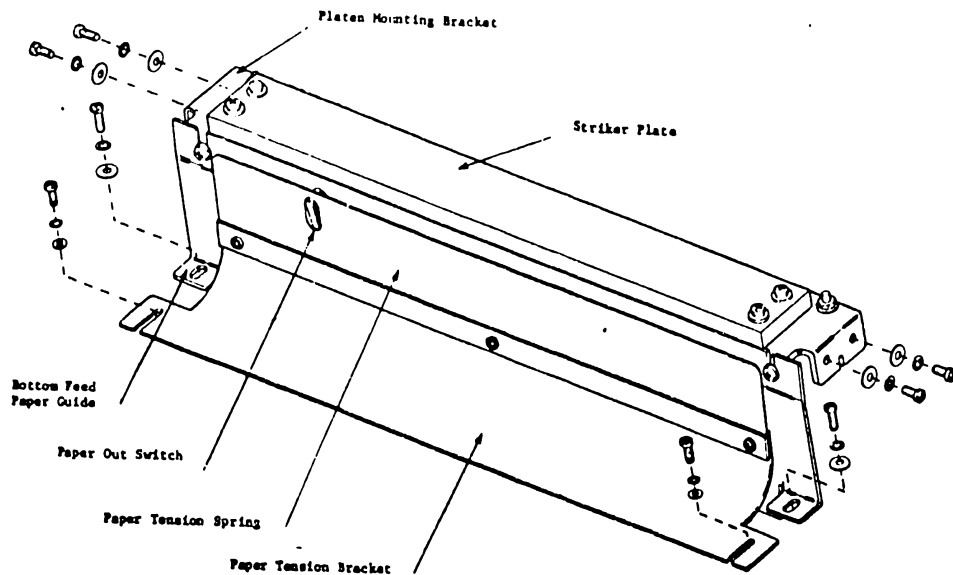

FIGURE 5-3 PAPER GUIDE ASSEMBLY
5.3.1 Paper Guides (Figure 5-3)
5.3.1.3 Removal and Replacement (See Figure 5-3)